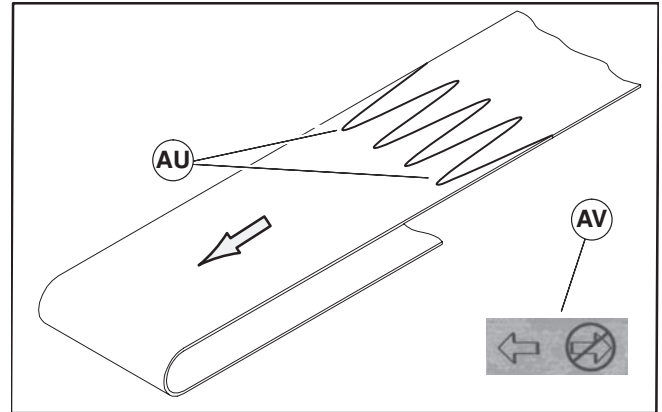

Figure 28
- Orient belt so splice leading fingers (Figure 28, item AU) point in the direction of belt travel as identified by the conveyor directional label (AV).